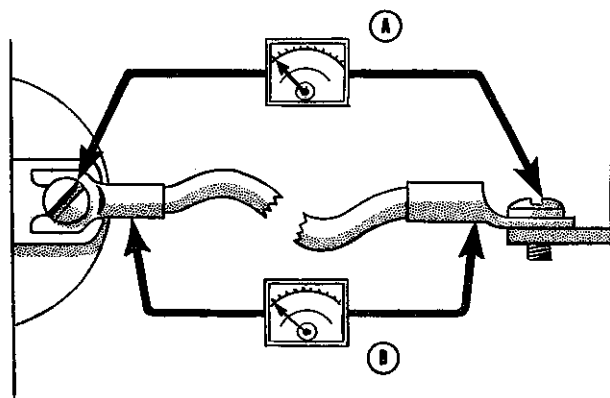

FIG. 179—VOLTAGE DROP TEST
**NOTE:** Most voltage drops will be found at the connections of wires to terminals as dirt, oxidation, etc. can cause excessive resistance at these points. Measure voltage drops in wires as shown in Fig. 179 to take this into account.